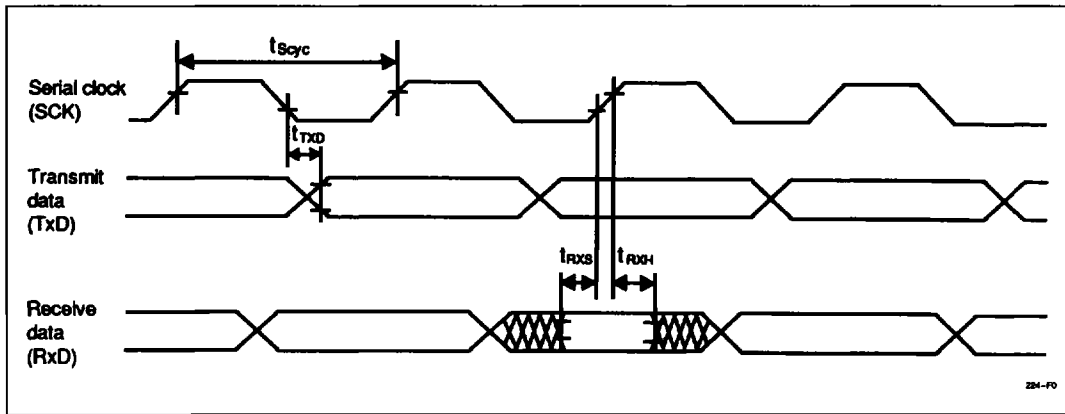

Figure 14-15. SCI Input/Output Timing (Synchronous Mode)
14.3.5 SCI Timing	Figures 14-15 to 14-16